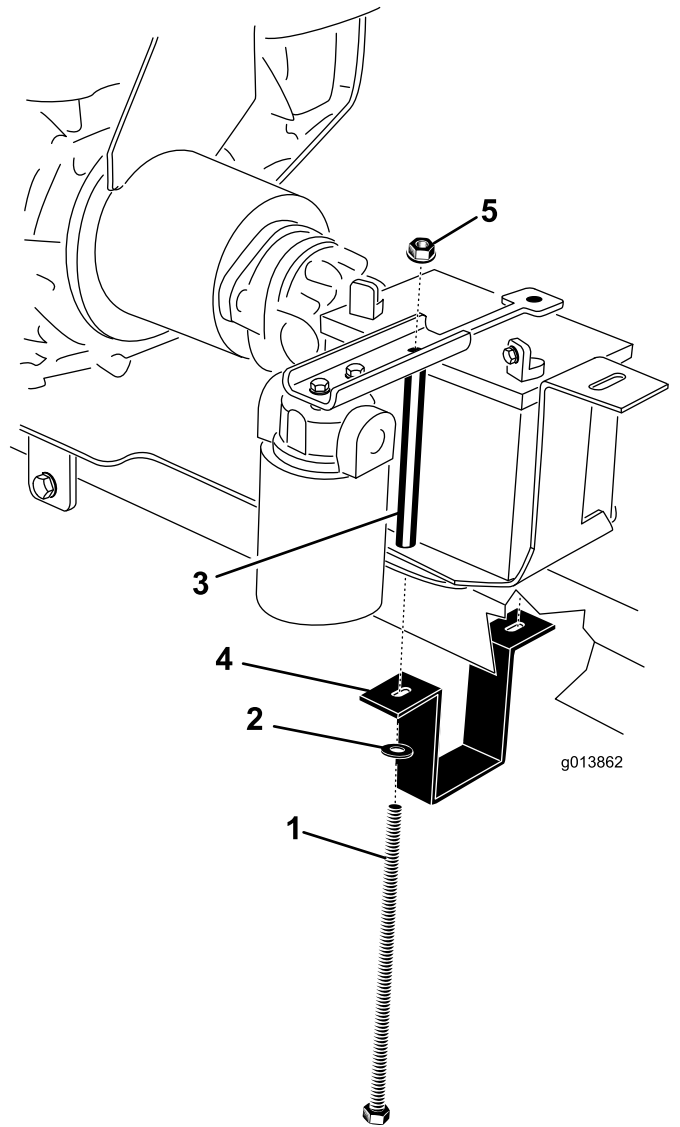

Figure 8
1. Battery bolt (2) 4. Battery mount strap
2. Washer (2)) 5. Flange nut (2)
21. Adjust the engine mount bracket so that it is tight to the hitch. Fully tighten the two bolts securing the engine mount brackets to the engine mounting plate (Figure 8).
22. Check that the engine mounting plate is level and fully tighten the (2) 1/2 x 5 inch bolts through the engine mount bracket lower holes.
23. Place the battery onto the battery tray, positioning the terminals as shown in Figure 8.
24. Position the battery hold down on the battery (Figure 8).
25. Hold the battery mount strap around the underside of the hitch tube (Figure 8).
26. On the right side, install a battery bolt through the washer, battery mount strap, engine mount plate, battery tray and hold down. Loosely install a flange nut (Figure 8).
27. On the left side, install a battery bolt through the washer, battery mount strap, engine mount plate, battery tray, battery bolt tube, and hold down. Loosely install a flange nut (Figure 8).
29. Unpack the hose guide, hydraulic return hose (hose #3), hydraulic suction hose (hose #4), (4) 1/4 x 3/4 inch bolts and (4) 1/4 inch flange lock nuts.